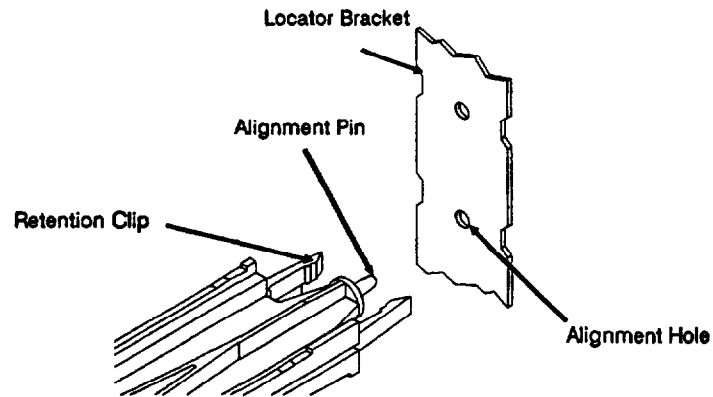

Figure 1-8. Aligning Slot Divider For Installation
2. Align the slot divider's alignment pin with the hole in the locator bracket on the backplane. See figure 1-8.